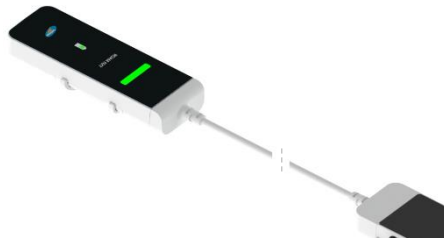

Figure 85: PIM NXT and Roam NXT with the Connector Cable
- b. To use the connector cable (Figure 85), fit the loosened screw on the PIM NXT through the slot in the cable connector and fit the loosened screw on the cable connector through the slot in the Roam NXT.